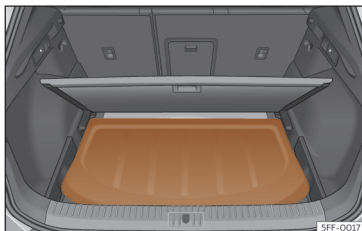

Fig. 189 In the boot: fitting the rear shelf.
- Place the rear shelf in the corresponding housing >>> **Fig. 189**.